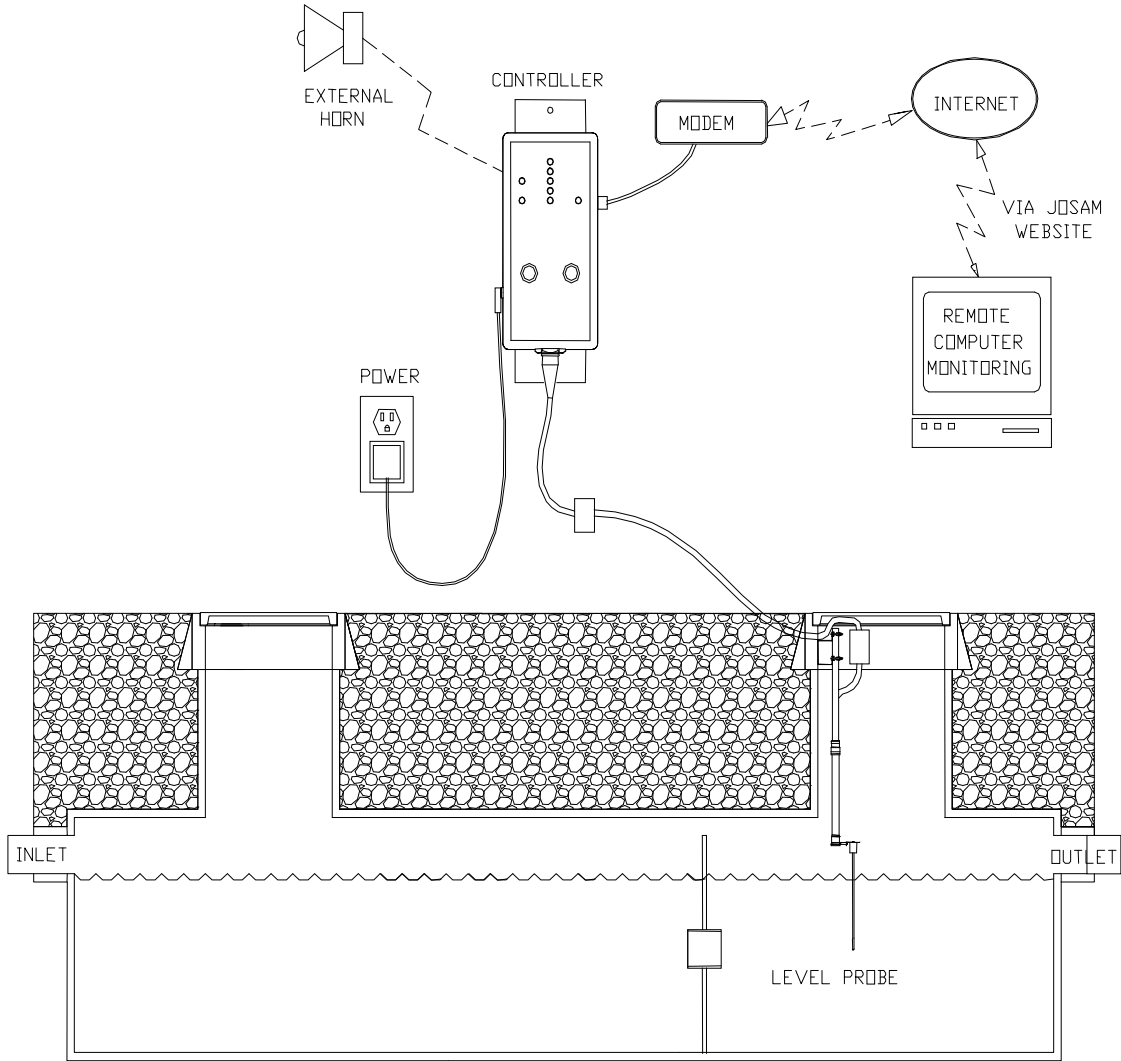
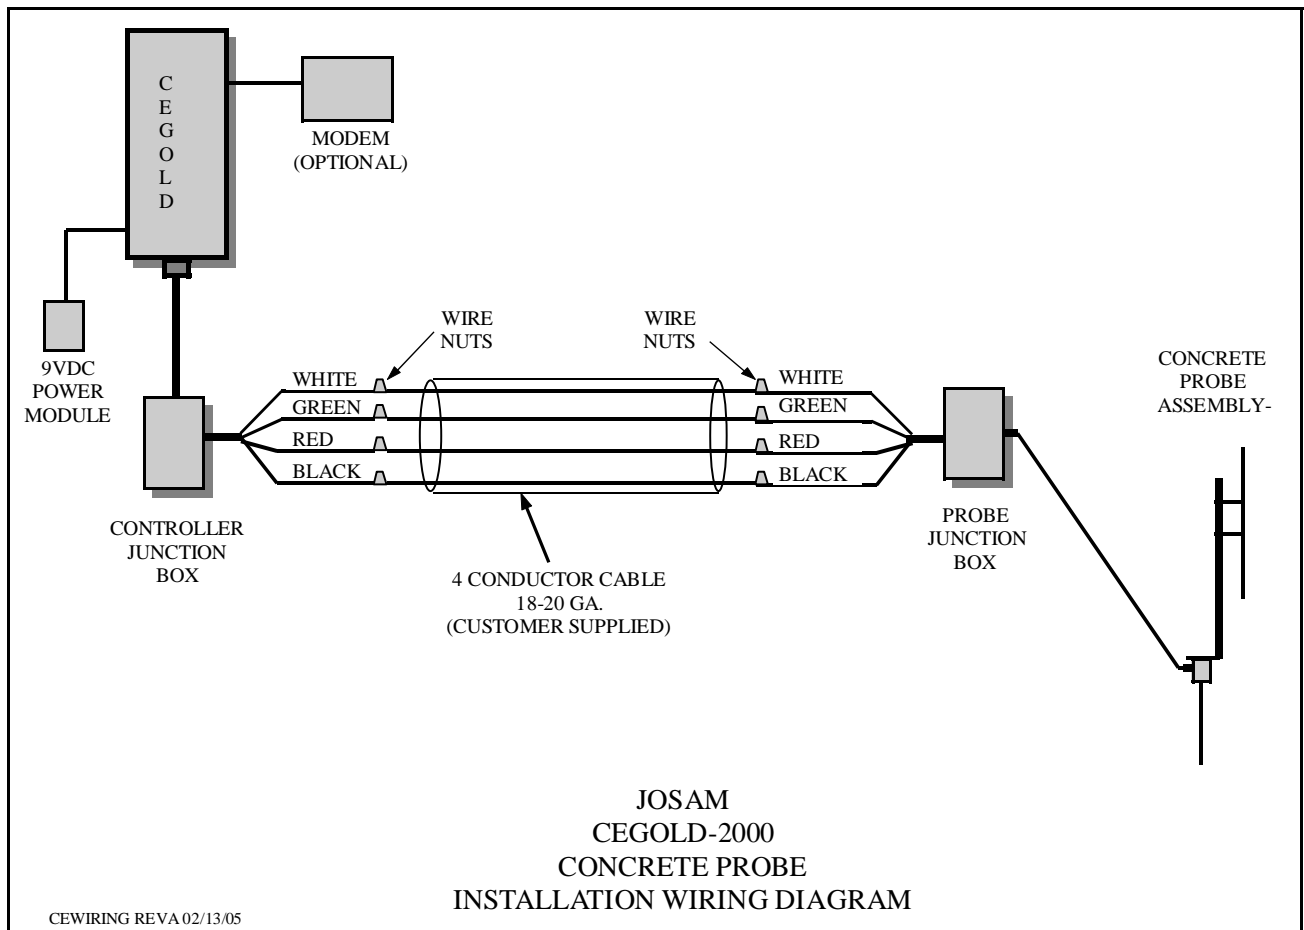

Figure 1-1
Figure 2-2
Figure 1-1 provides an illustration of the CEGOLD-2000 System used with a Concrete Interceptor Probe assembly.
- 2) Place the Control Unit on the wall and mark the two (2) mounting hole locations. Drill 3/16" holes to accept the mounting hardware.
- 4) Mount the Controller Junction provided near the Control Unit location so that the cable provided with the Controller Junction Box can be plugged into the bottom of the Control Unit (as indicated in Figure 1-1).
- 5) Remove the Controller junction box cover. Run the cable that comes from the Probe Junction Box in the manhole into the unused end of the Controller junction box and wire nut the cable to the existing 4 conductor cable already installed in the Controller junction box. (See Figure 2-2 for wire connections). Reattach the Controller Junction Box cover.
- 3) Attached the Probe Junction Box provided to the sidewall of the manhole cover frame (as indicated in Figure 1-1). Remove the junction box cover. Run the cable into the unused end of the junction box and wire nut the cable to the existing 4 conductor cable already installed in the junction box. (See Figure 2-2 for wire connections). Reattach the Probe Junction Box cover.
- 5) At the selected location install the probe pipe mounting bracket anchors provided to the manhole cover frame a minimum of 6" apart.(as indicated in Figure 1-1).